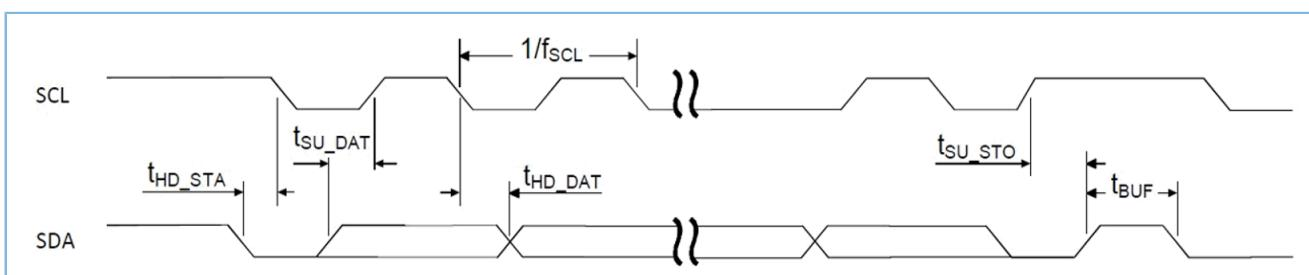

Figure 10-11 I2C timing diagram
- Description:** This register controls the amount of time delay (in terms of number of clock periods) introduced in the rising edge of SCL - relative to SDA changing - when I2C services a read request in a slave-transmitter operation. The relevant I2C requirement is tSU\_STO as detailed in the Figure 10-11. This register must be programmed with a value equal to or greater than 2.